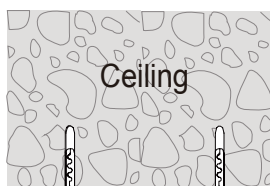

Fig.5
- Step5 Knock the plastic expansion screw into the hole which you drill (as Fig.5)